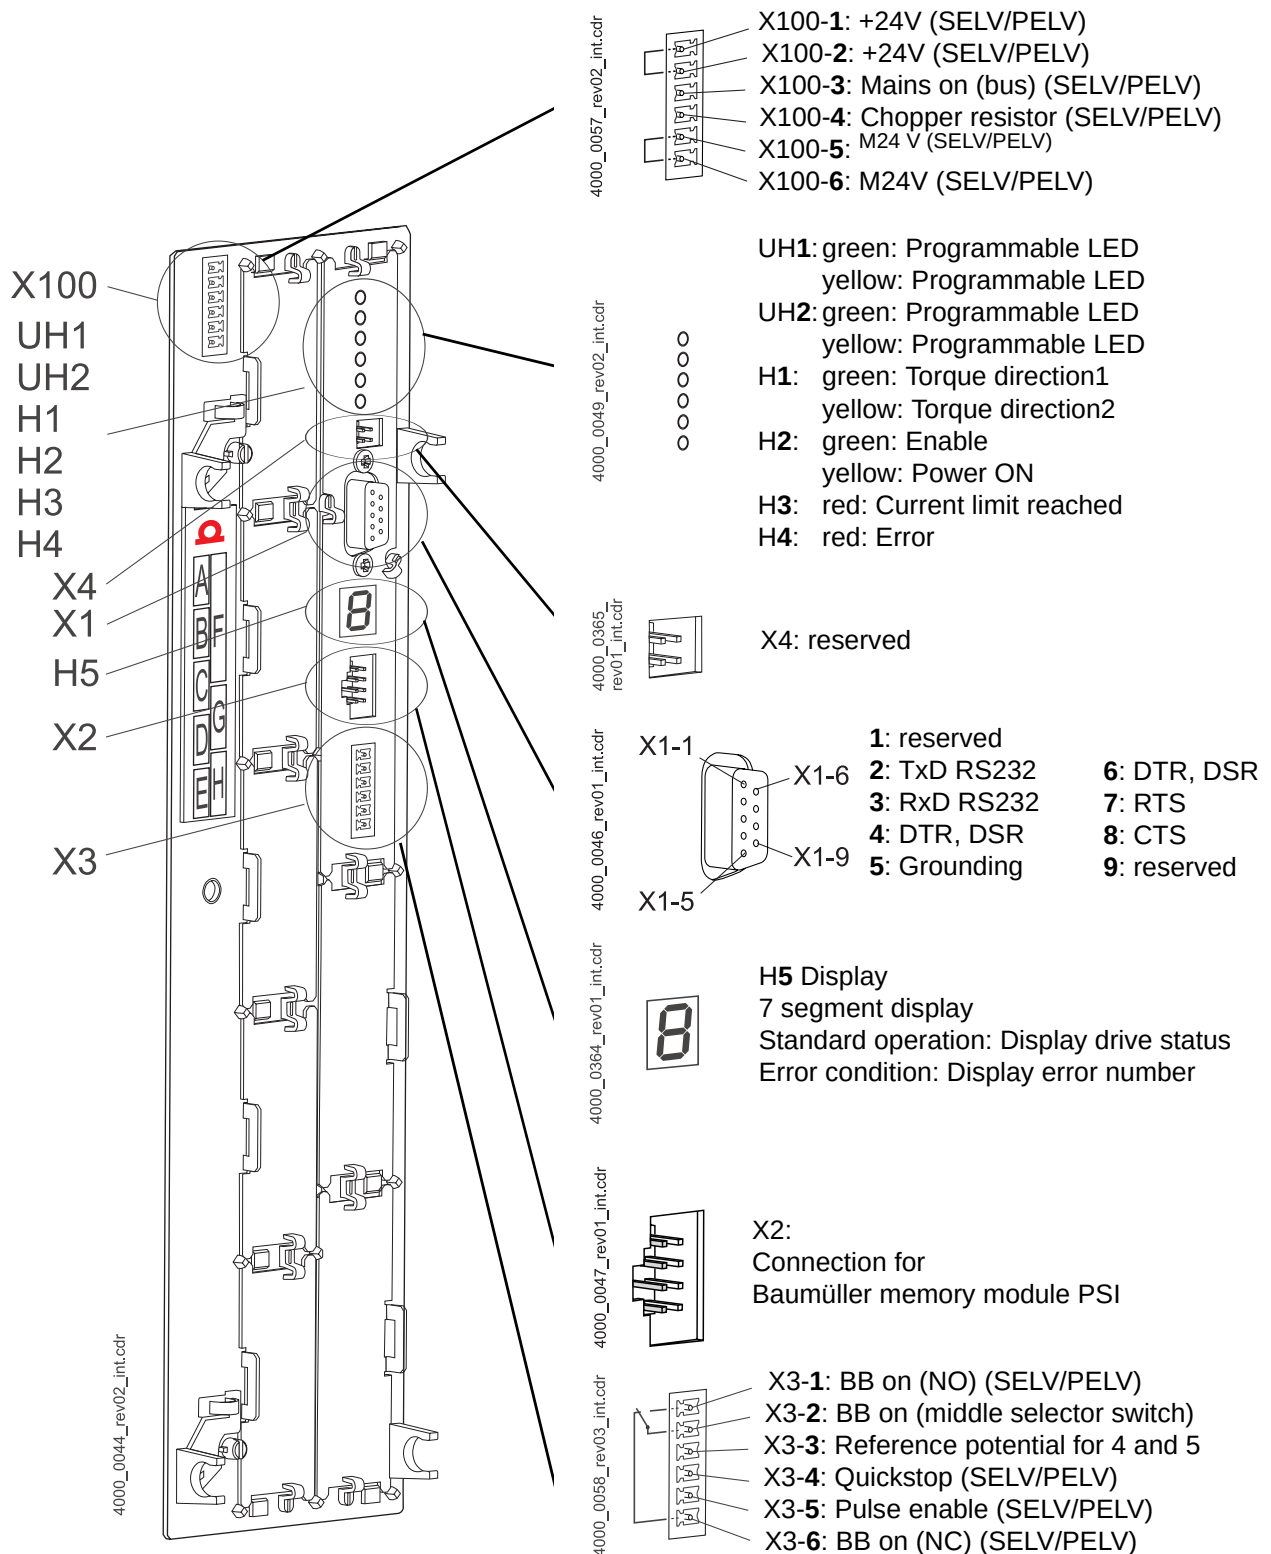

Figure 16: Connection X100 and connections of the controller unit
- X1 Serial interface (RS 232), see ▶Figure 16◀ on page 28.
- X3 Connections for ready-for-use, quickstop, pulse enable, see ▶Figure 16◀ on page 28.
- X100 Connections for 24 power supply, further information see ▶Figure 16◀ on page 28 (SELV/PELV)